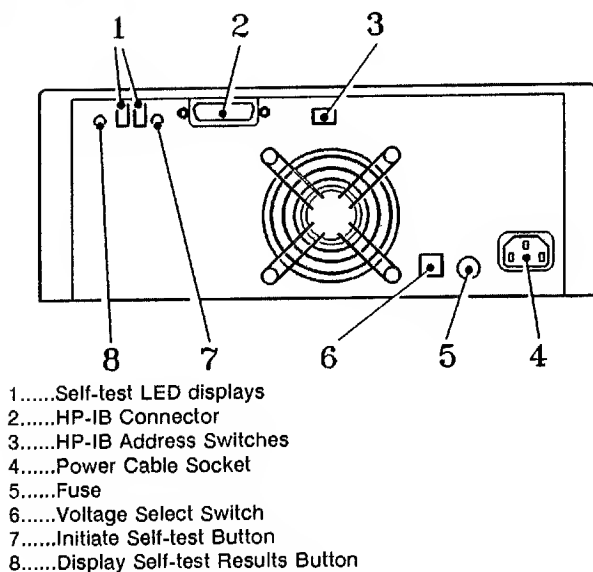

Figure 1-3. The Rear Panel
The rear panel switches include the Display Results (DR) push-button, Initiate Self-Test push-button, HP-IB Device Address toggle switches and the Voltage Select slide-switch. These are shown in **figure 1-3**. The Display Results and Initiate Self-Test switches are both miniature push-buttons operated by pressing them with a fine-tipped implement. These push-buttons are used in fault-finding; their operation and purpose is explained in **chapter 5**.